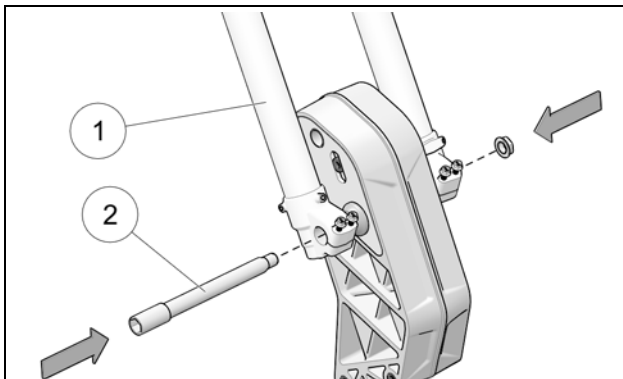

Figure 18
- Position the ski assembly at the front fork (1) and align the T-Bushings with the fork's axle mounting points.
- Insert the front wheel axle (2) through axle mounting points and T-Bushings to secure ski assembly in place. Install axle nut on wheel axle and hand tighten temporarily. Figure 18.